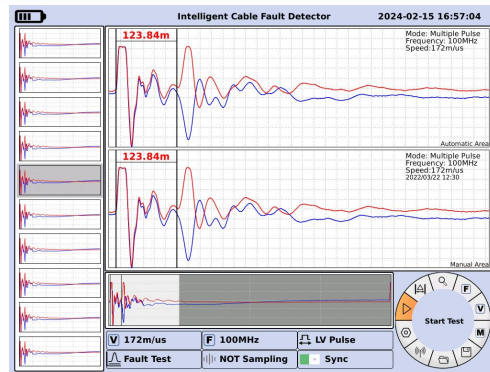

Figure 3.4 Main Menu After Successful Parameter Setting
Rotate the ⑪ "Optoelectronic Rotary" to move the focus to the "OK" button and press it to save the settings. The main menu interface will now appear as shown in Figure 3.4. The focus should be on . Press the "Photoelectric Rotator ⑪" button to start sampling. If you need to change the settings beforehand, you can switch to the "Cancel" button and press the "Photoelectric Rotator ⑪" to go back and make modifications.